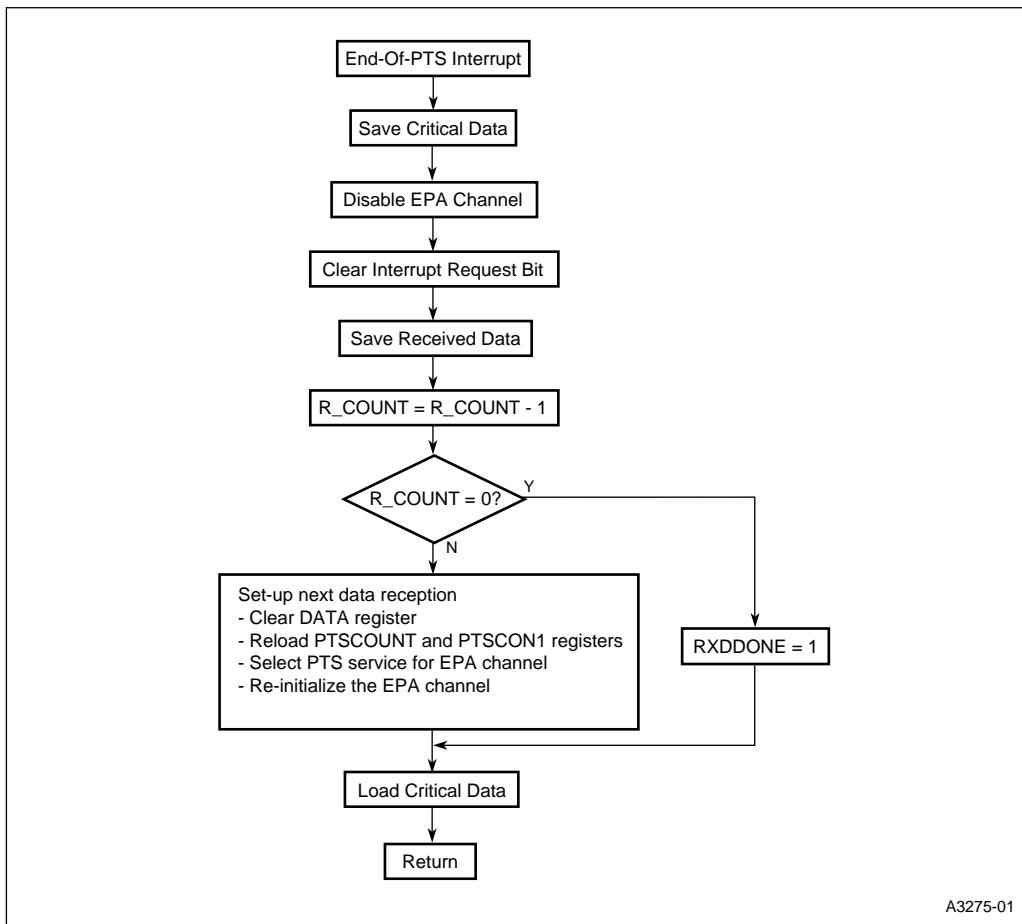

Figure 5-24. Synchronous SIO Receive Mode — End-of-PTS Interrupt Routine Flowchart
11. Toggle the SCK input to start the reception. Data is shifted into the most-significant (leftmost) bit first and shifts right with each successive bit received. The EPA generates an interrupt each time that the SCK input toggles. The PTS receives the next bit of data on the pin configured as RXD on even PTS cycles. When PTSCOUNT decrements to zero, the PTS calls the end-of-PTS interrupt (Figure 5-24). The interrupt service routine should disable the EPA channel, clear the DATA register, reload the PTSCOUNT and PTSCON1 registers, reload EPA0_CON, and select PTS service for EPA0. If the EPA were generating the SCK signal, the end-of-PTS interrupt service routine would also have to reload the EPA0_TIME register.